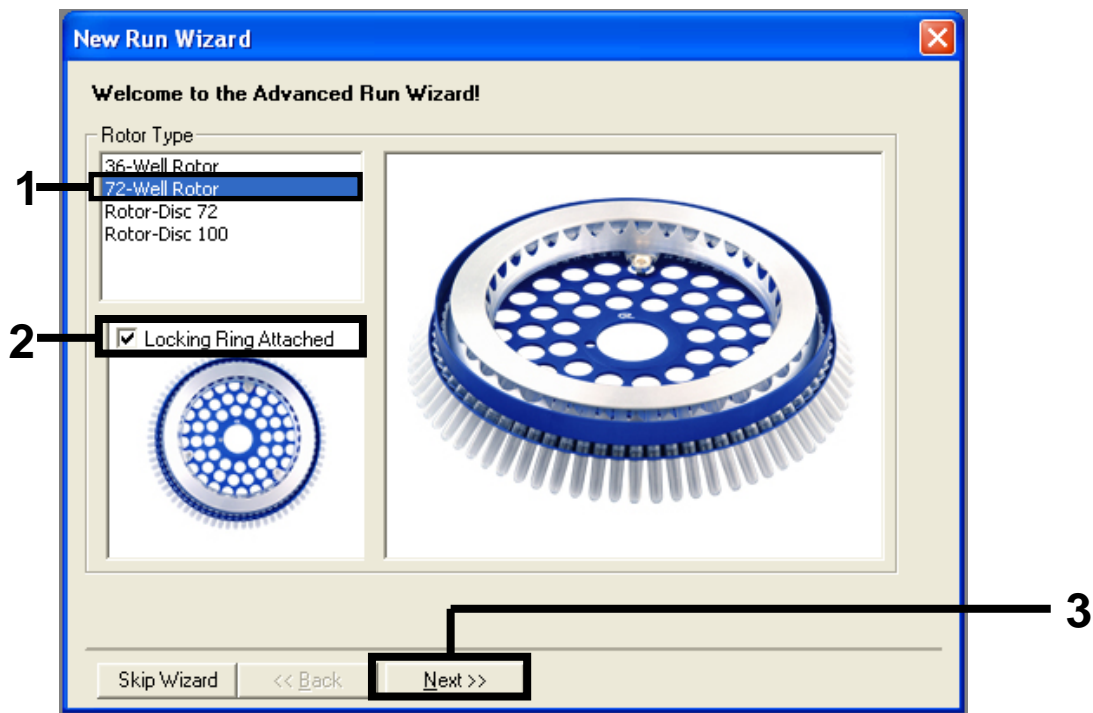

Figure 21. The "New Run Wizard" dialog box. (1 = "Rotor type", 2 = "Locking Ring Attached box", 3 = "Next" button).
3. Select 72-Well Rotor as the rotor type. Confirm that the locking ring is attached and check the "Locking Ring Attached" box. Click "Next" (Figure 21).